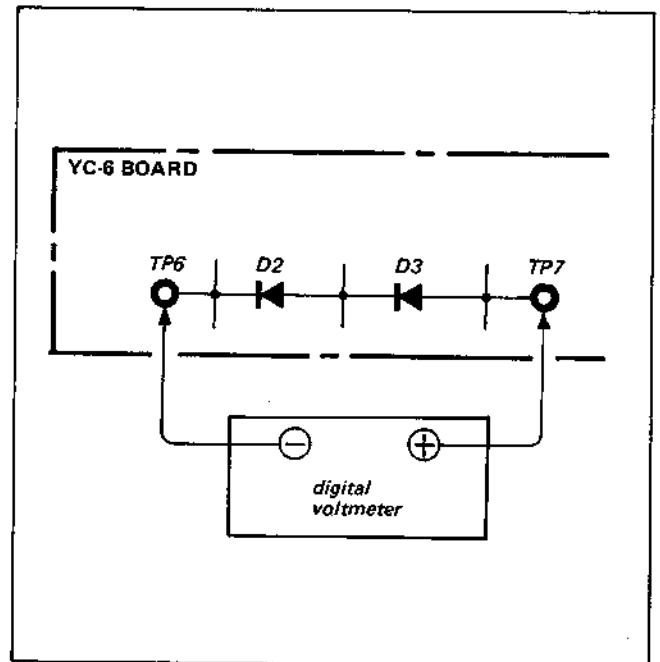

Fig. 4-4-15. Measurement points
- (1) Do not supply the VTR with any signal and set up the E-E mode.
- (2) Connect the digital voltmeter to the points shown in Fig. 4-4-15.